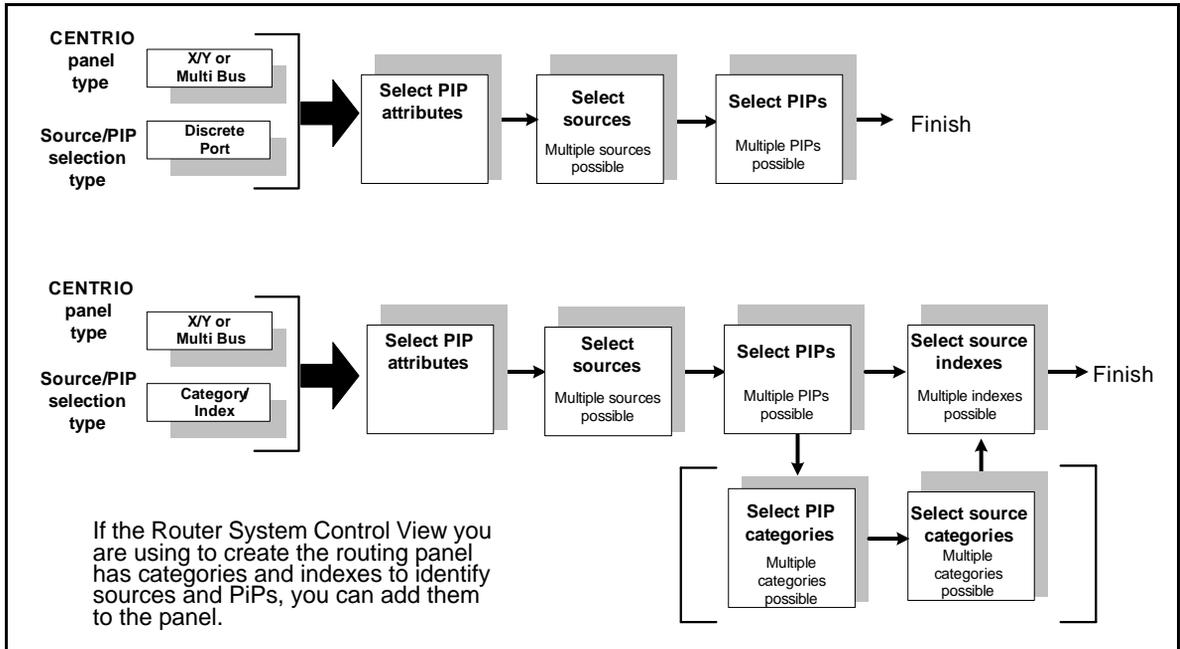

Figure 2-5. X/Y and Multi Bus Device Type Panel Configuration
- **X/Y Device**—Using this type of CENTRIO panel, you can assign a source to one CENTRIO PiP at a time. You can select this PiP from a configured list of available PiPs. Figure 2-5 on page 13 illustrates X/Y Device type panels.
- **Multi Bus**—Using this type of CENTRIO panel, you can assign a source to multiple PiPs simultaneously. You can select these PiPs from a configured list of available PiPs. Figure 2-5 on page 13 illustrates the Multi Bus type panels.
After you complete **Step 1** of the CENTRIO Panel Configuration wizard, click **Next** to select the PiP attributes for your CENTRIO panel. The number of steps required to complete the wizard depends on the type of CENTRIO panel you are configuring. Figure 2-5 on page 13 illustrates the steps required to complete the wizard for each type of CENTRIO panel.
Figure 2-5 illustrates X/Y type CENTRIO Panel Configuration wizard steps.